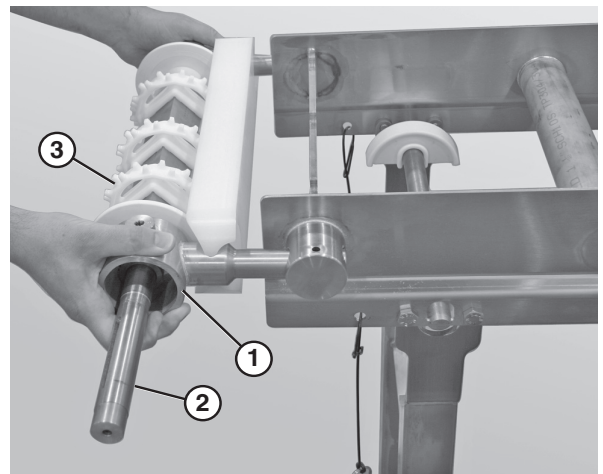

Figure 64
6. Slide the drive tail assembly out of the take up blocks (**Figure 64**).
7. Slide the motor support bracket (**Figure 64, item 1**) off the drive spindle (**Figure 64, item 2**).
8. Remove the sprockets (**Figure 64, item 3**).